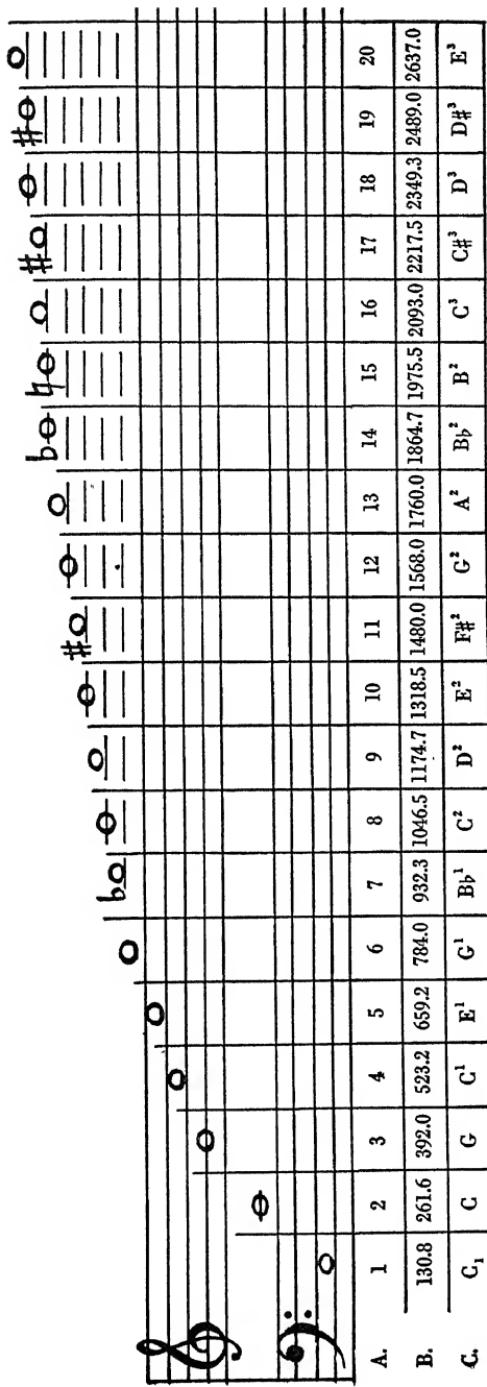

Fig. 7
If the performer were equal to the task he could go on and on, compelling the wave to divide into seven, eight and up to twenty or more separate waves. (See Fig. 7.) These notes would all be the harmonics of the fundamental, and the resulting scale would be the natural, or harmonic, scale. The notes in this harmonic scale are called partials, the lowest being the first partial, the octave being the second partial, the next one (G) being the third partial, and so on. These notes are also spoken of as the "open" notes, no slides, valves or keys being necessary to play them. It is easy to see (Fig. 7) that there are wide gaps in the lower parts of the scale, but that as the higher partials are reached the notes are close together until, when the thirteenth partial is reached, the notes are a half-step apart. In this upper range we have all the notes we need, but in the lower range there are some wide gaps that must be bridged over in some way.
The author is well aware that the trombone is not treated in music as a transposing instrument, but the method of treatment here has been chosen to eliminate confusion in comparing it with the harmonic scale of open notes used as illustration for all instruments (Fig. 7).